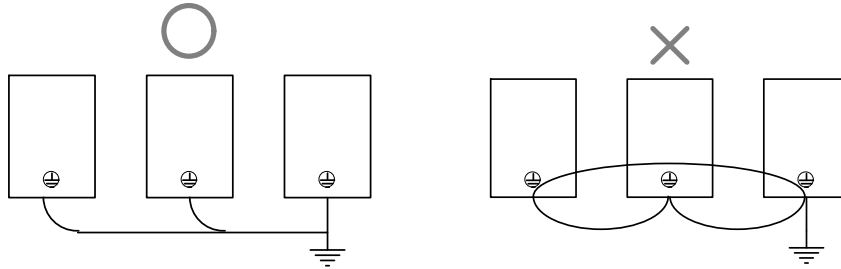

Figure 4-10 Grounding method for multiple inverters
- When grounding multiple inverters, it is recommended to avoid loops in the grounding wires. See Figure 4-10 for grounding methods for multiple inverters.